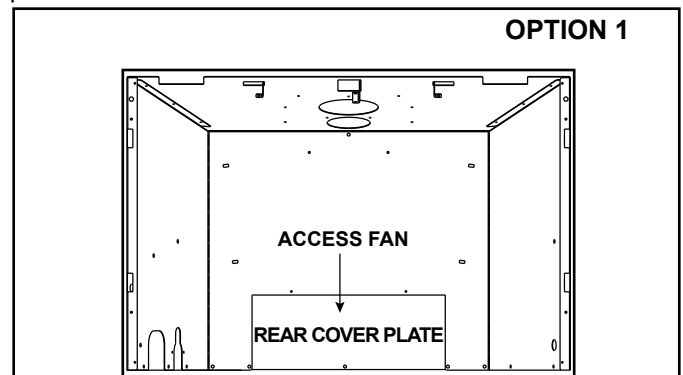

Figure 6.3 Cover Plate Removed (Option 1)
2. Remove the five screws on the rear cover plate. See Figure 6.3.